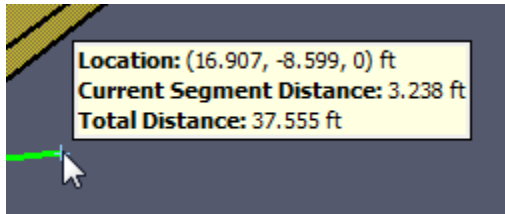

Figure 8.32. Information displayed by the measure tool
2. Either click several points to measure the total distance along a path or click-drag to measure a single distance between two points. As the cursor is moved, the current cursor location, total path length, and length of the most recent segment are displayed as shown in Figure 8.32.